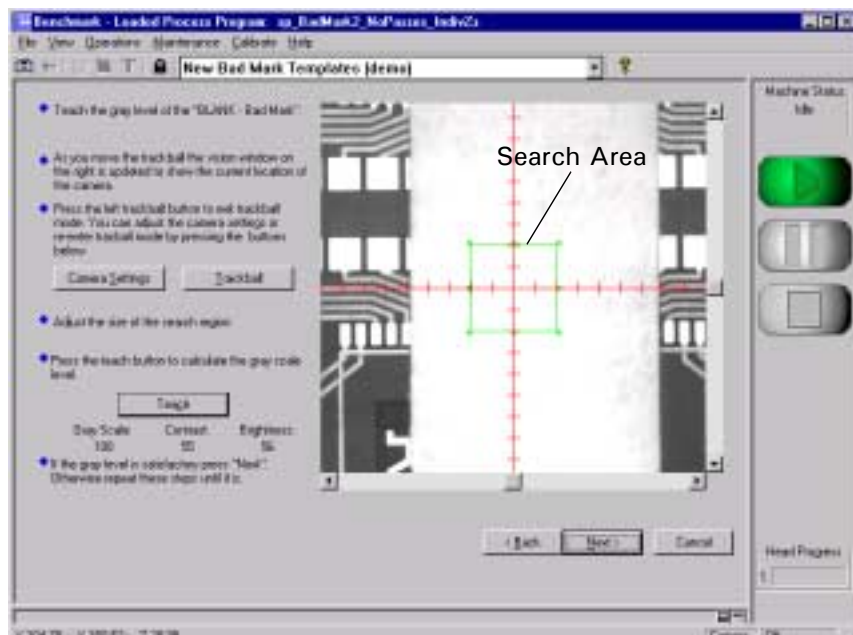

Figure 10-7
1. Select the **T**rackball button. While viewing the vision screen, move the crosshair over to a reference point that **does not** contain a bad mark. See Figure 10-7.
A value close to 100 (Gray Scale) is desired when teaching the Blank Bad Mark. See Figure 10-7.